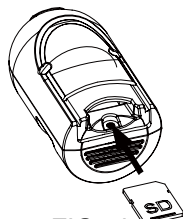

FIG. 1b
- Insert provided 2GB SD card or SD card with memory up to 32GB by your choice into the card slot (FIG. 1b).